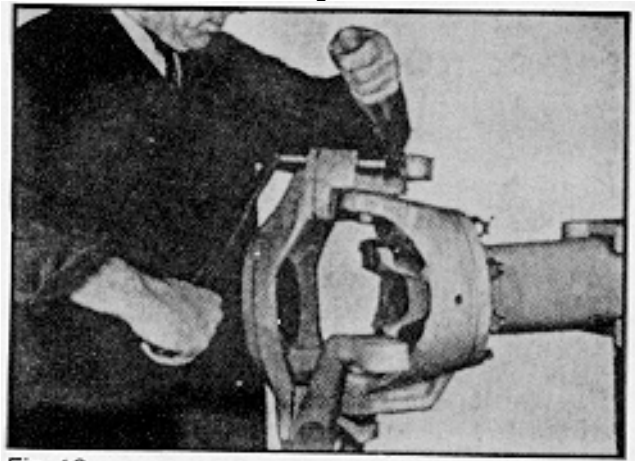

Fig. 13
6. Re-install bolts and tighten to the specific torque. (See fig. 13.)
4. Support the spindle yoke while removing the four capscrews at the upper kingpin bracket. (See fig. 13.)